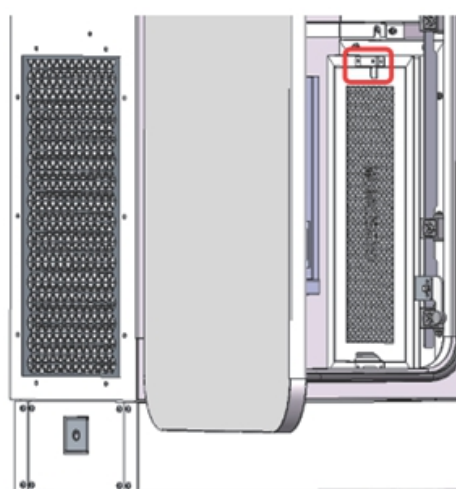

Figure 7
2. After opening the front door, twist the filter cotton retaining latch on the right side at the bottom of the cabinet, then pull out the filter cotton frame outward, see Figure 7.